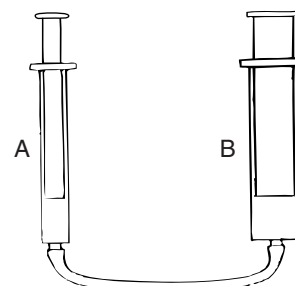

Figure 10.
- Refer to Figure 10. Who would Pascal predict as the winner in a "thumb wars" match between A and B? Why?